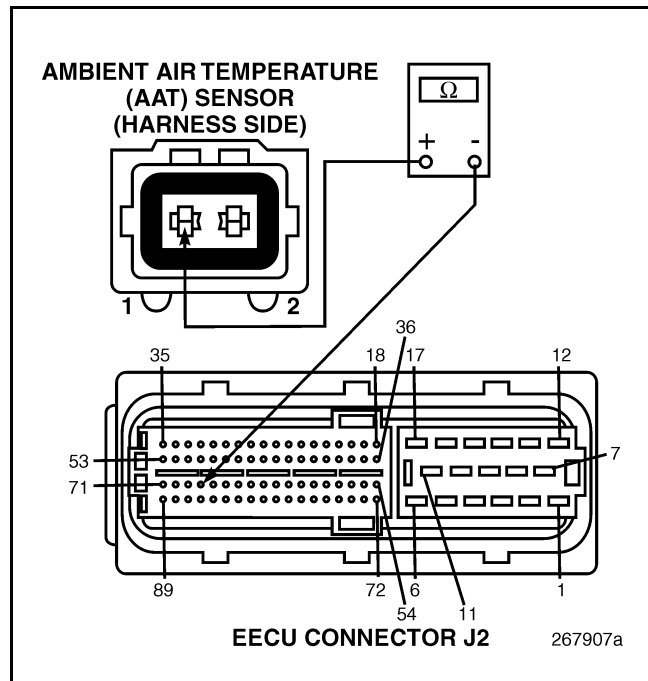

Figure 86
4. Check for continuity between pin 1 of the AAT Sensor harness connector and EECU harness connector J2 pin 68 (see Figure 86).